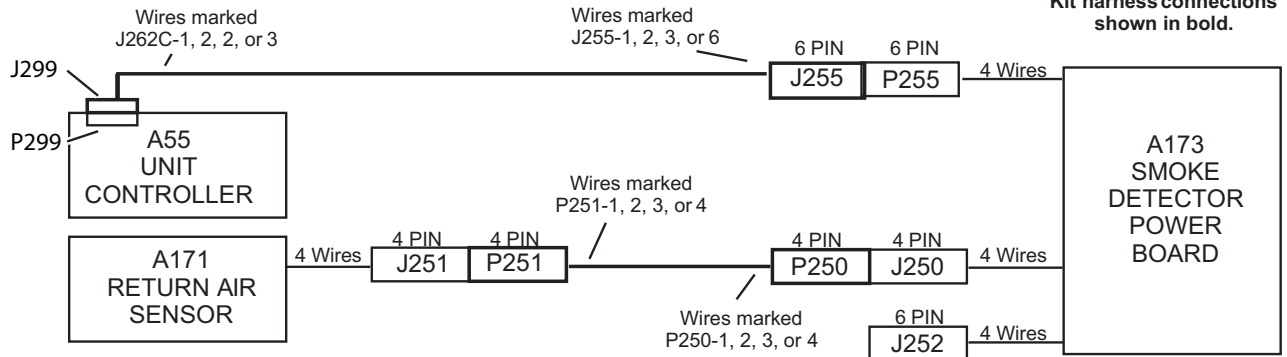
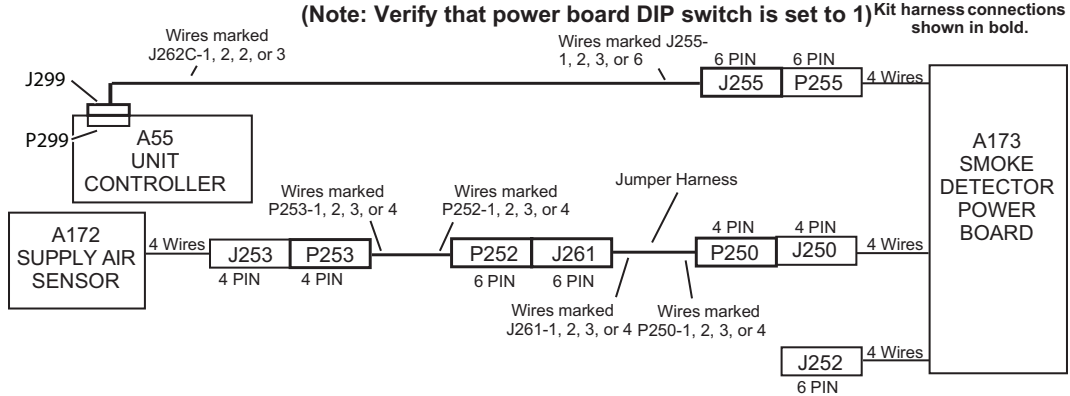
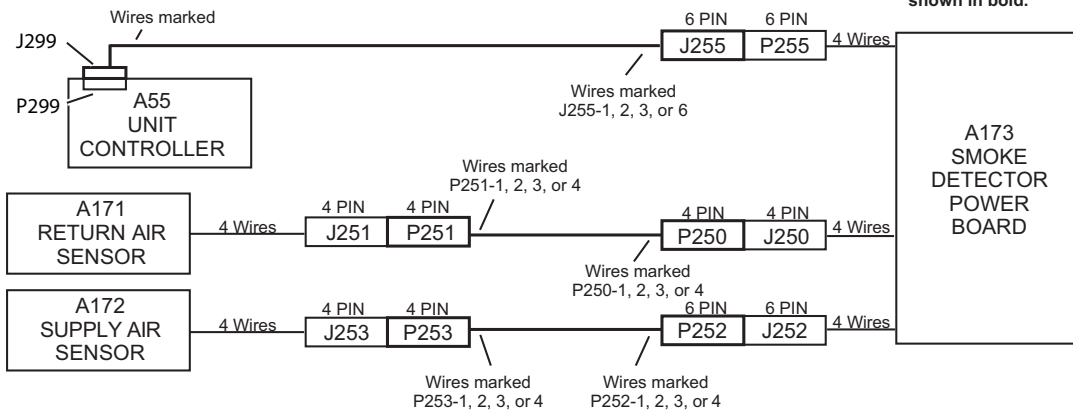

FIGURE 8 Unit Application With Return Air Smoke Detector Only
FIGURE 9 Unit Application With Supply Air Smoke Detector Only
FIGURE 10 Unit Application With Return And Supply Air Smoke Detectors
- 1 - Make jack/plug connections as shown in FIGURE 8 when installing return air smoke detector only, FIGURE 9 when installing supply air smoke detector only, and FIGURE 10 when installing both supply and return air smoke detectors.